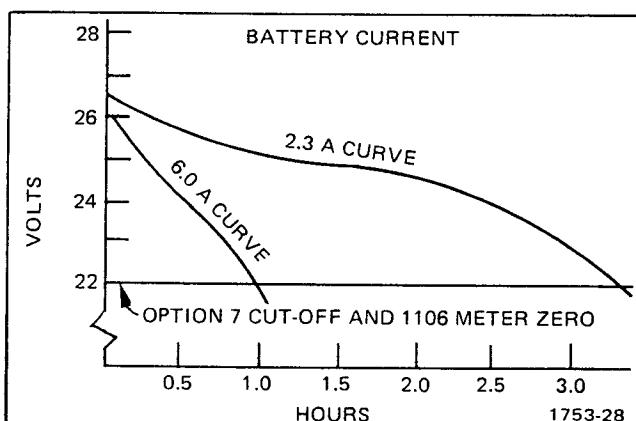

Fig. Option 7-5. Typical battery pack discharge curves.
*Option 7 is calibrated at the factory using a power supply (having the specifications listed first under the equipment required list). This permits the most accurate setting of the turn-off volts and inverter balance adjustments. Because this type of power supply may not be available, several alternate possibilities are given. The alternate power supplies have drawbacks, including voltage stability vs. time with high discharge rates, see Fig. Option 7-5.*
2. Variable power supply with an adequate current rating, in series with items 4 or 5.